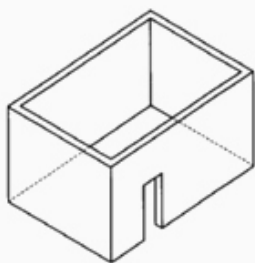

Figure 1 - Enclosure with walls on all sides but
- An enclosure with walls on all sides, but atleast one permanent opening at ground level and no overhead cover. See Figure 1.